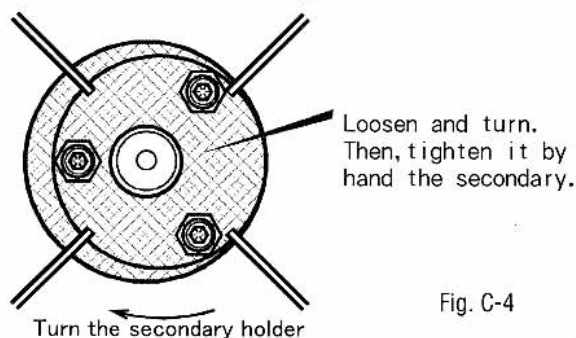

Fig. C-4
- ② Loosen the large knurled nut holding the threaded rod of the secondary holder and turn the secondary as showin in the Fig. C-4.